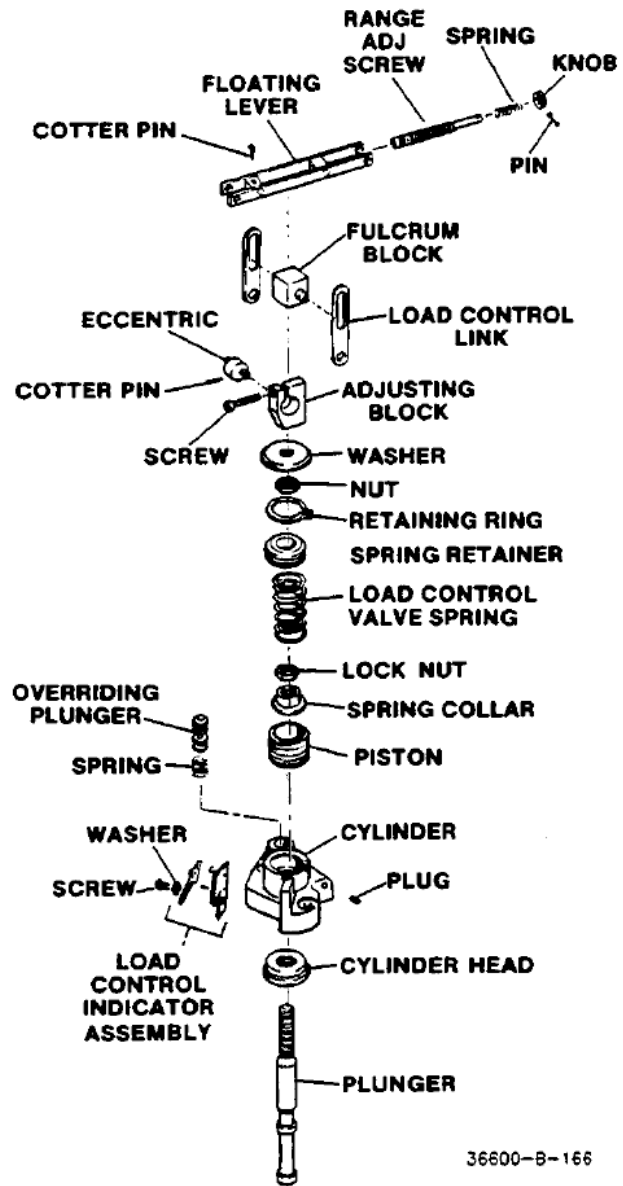

Figure 5-52. Load Control Pilot Valve Assembly
- c. Press the cylinder head into cylinder, (Figure 5-52).